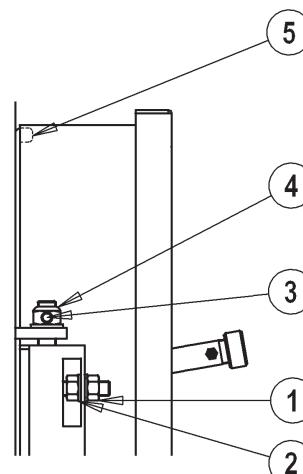

fig. 9
5.6.1 For models PREXTERM RSW 92N÷600N(Fig. 9)